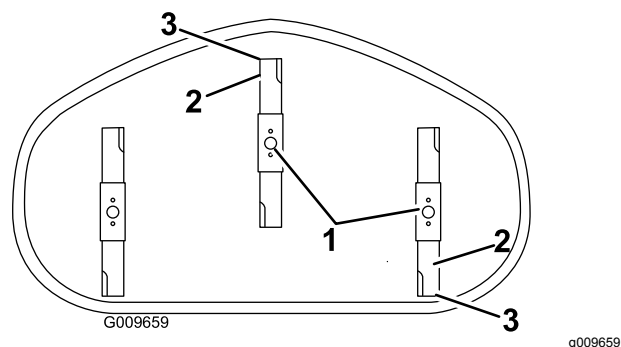

Figure 55
4. Carefully rotate the blades so they are facing front to rear (Figure 55).
5. Measure from the tip of the front blade to the flat surface and the tip of the rear blade to the flat surface (Figure 55). If the front blade tip is not 1.6-7.9 mm (1/16-5/16 inch) lower than the rear blade tip, adjust the front locknut.
8. After adjustment, check the front-to-rear slope again. Continue adjusting the nut until the front blade tip is 1.6-7.9 mm (1/16-5/16 inch) lower than the rear blade tip (Figure 55).